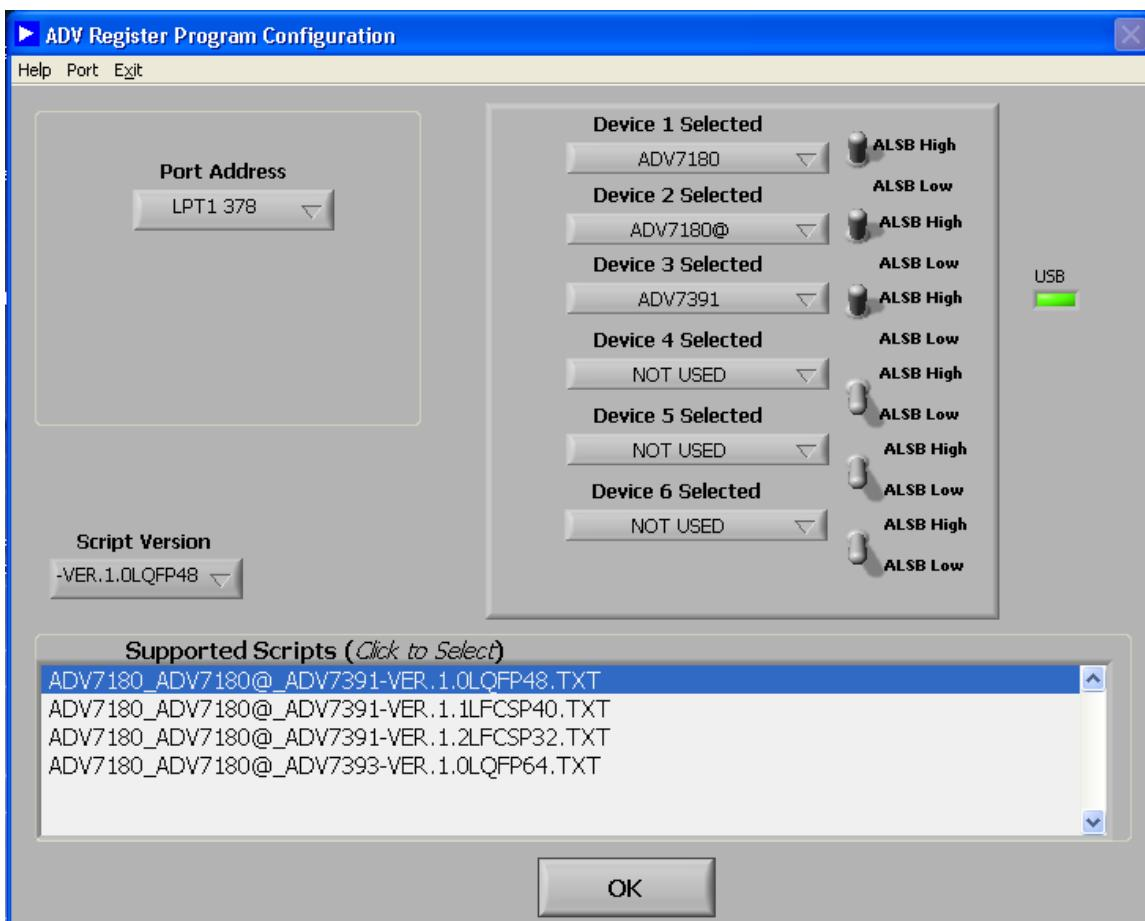

Figure 1. ADV Register Software Configuration.
The ADV Register Program Configuration screen appears, as shown in Figure 1
4. Ensure the options are set, as shown in Figure 1, and click on the OK button. When the register control software starts, it firstly initializes all the selected devices and then loads the reset defaults for each device. I²C control and reset signals are connected to the evaluation board through the USB cable. This cable should be connected to the evaluation board before the application software is started.